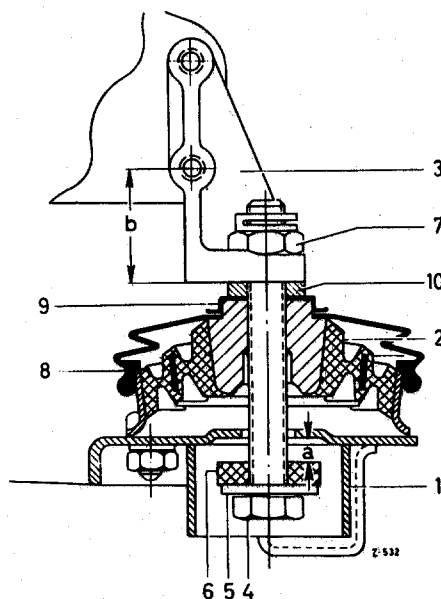

Fig. 01—1/14
When harder rubber mountings are installed (see Job No. 24 — 1, Fig. 5, Note) for the rear engine suspension, the engine will be too high at the rear if the engine support (3) which was standard up to now is used (Fig. 01—1/14). To correct this, an engine support which is 5 mm shorter is at present being used